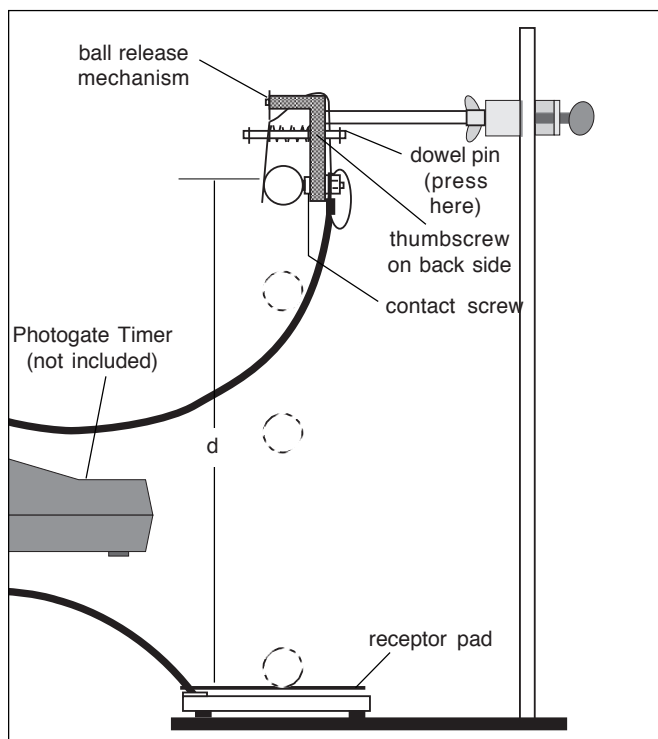

Figure 2. Equipment Setup
1. Clamp the ball release mechanism to a lab stand, or any other device that will hold it vertical and at the desired height over the floor or table (Figure 2).
5. Read the time on the digital display of the timer. This is the time it took for the ball to fall a distance  $d$ , as shown in Figure 2.
5. Read the time on the digital display of the timer. This is the time it took for the ball to fall a distance **d**, as shown in Figure 2.